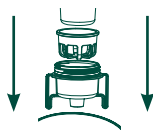

Figure: 3
- 4 Place the charcoal water filter with the rounded bottom facing down into the charcoal water filter cartridge. See Figure: 3.